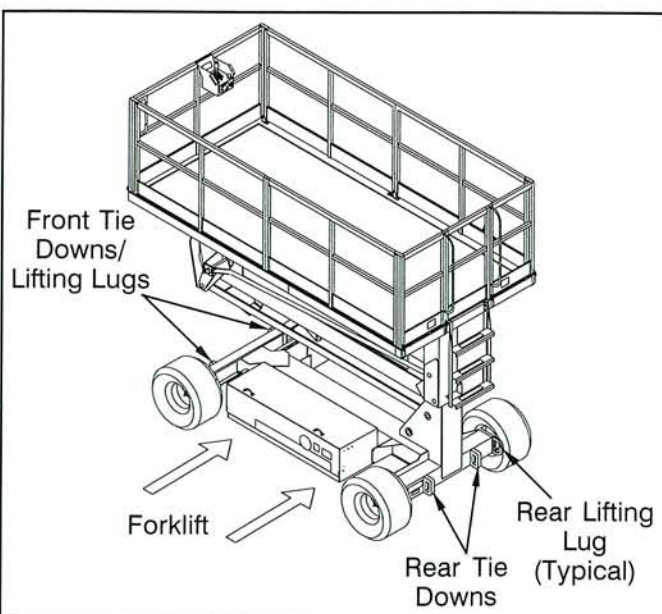

Figure 5: Transporting Work Platform
Forklift from side of Chassis by lifting under the Chassis Modules (Figure 5).
1. Secure straps to Lifting Lugs only (Figure 5)
2. Secure the work platform to the transport vehicle with chains or straps of adequate load capacity attached to the chassis tie down lugs (Figure 5).